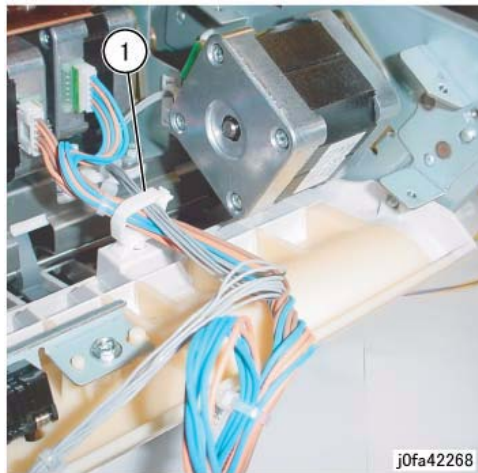

Figure 3 Releasing the Clamp (j0fa42268)
9. Release the Clamp from the wire. (Figure 3)